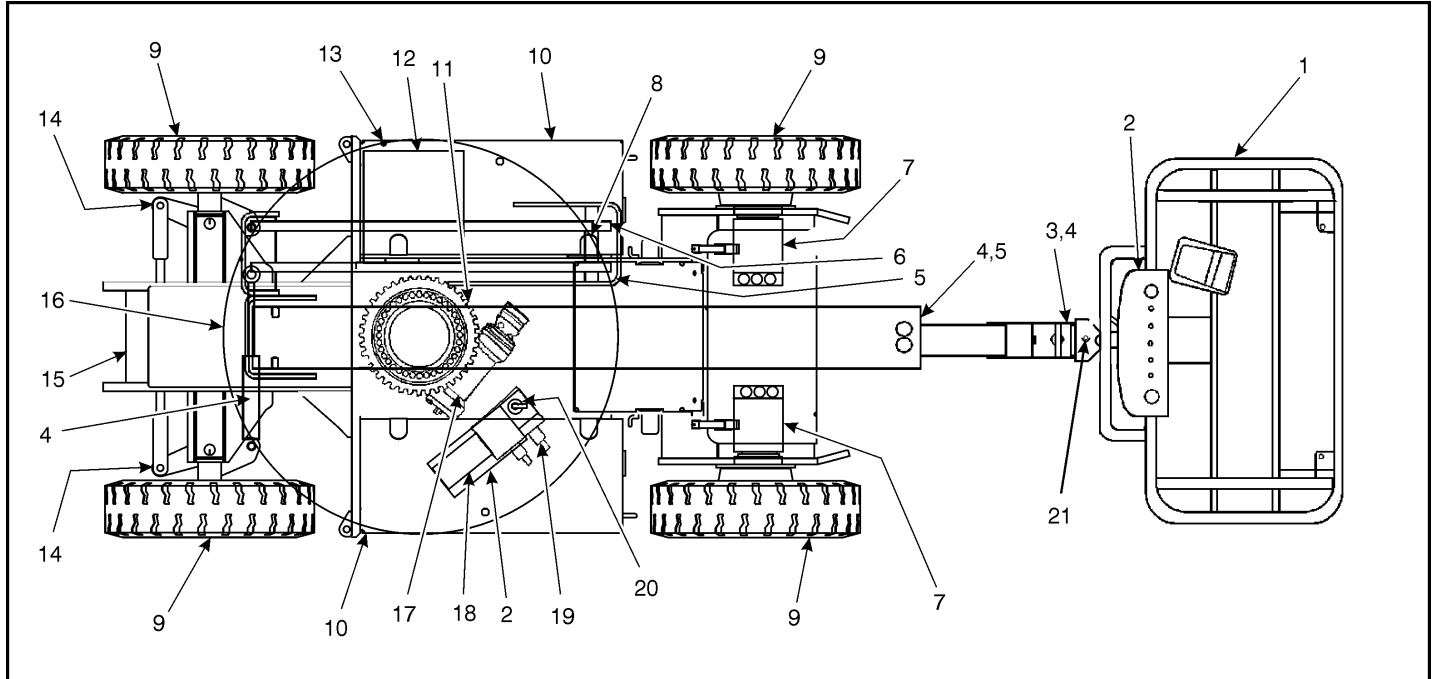

Figure 2-4. Daily Walk - Around Inspection (Sheet 1 of 3)
5. **“Walk-Around” Inspection** – Refer to Figure 2-4. thru Figure 2-6.